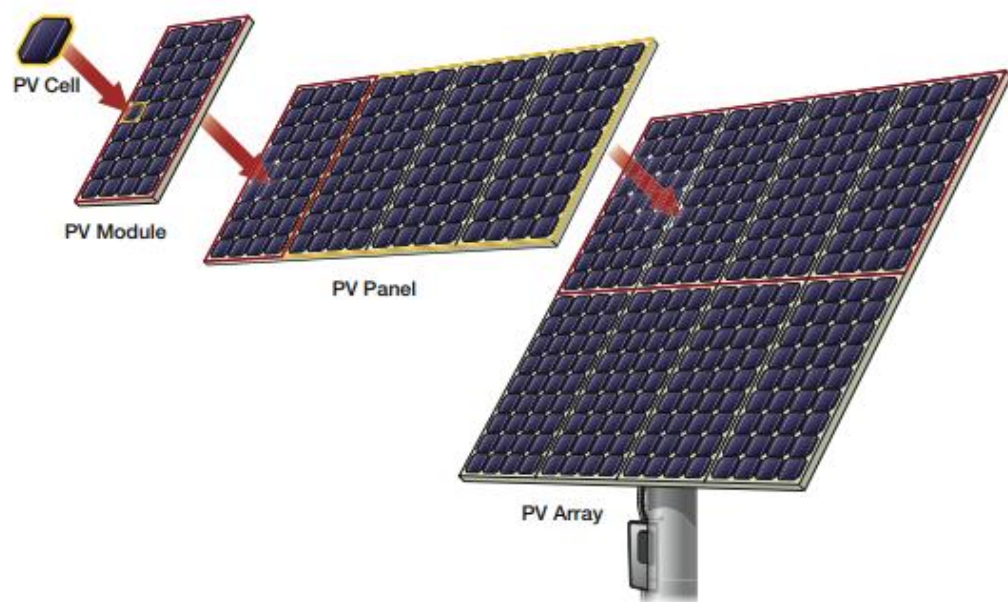

Figure 5.1: From smallest to largest, PV technology starts with the cell, continues to the module, then the panel, and finally the array.
Solar electric module terminology starts with the **photovoltaic (PV) cell**, the smallest component capable of producing electricity from the sun (see Figure 5.1).